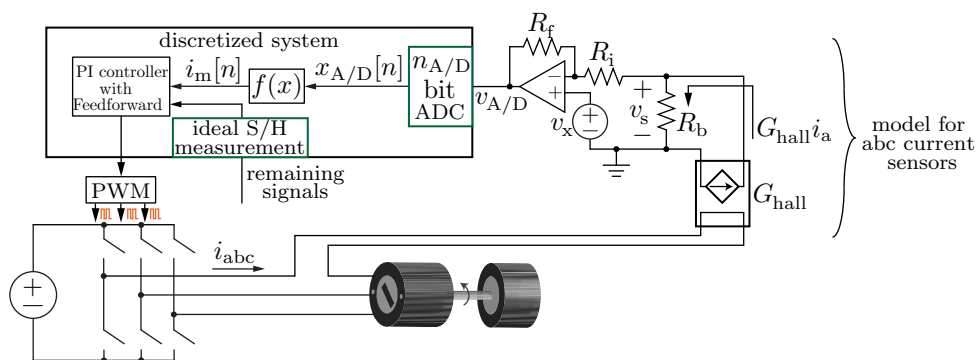

Figure 4: Motor drive with discretize controller along with sensing path scaling and circuitry.
We will model the LAH25-NP hall-effect sensor. This sensor outputs a current  $G_{\text{hall}}i(t)$  where  $G_{\text{hall}} = 1/1000 \text{ A/A}$  and  $i$  is the current flowing on one of the three phases (see Figure 4). The sensor current flows in a burden resistor  $R_{\text{b}} = 75 \Omega$ . The effective gain from the current  $i$  to op-amp input signal  $v_{\text{s}}$  is  $G_{\text{s}} = G_{\text{hall}}R_{\text{b}}$ . This sensor gives a zero dc offset at  $v_{\text{s}}$  (in handout  $v_{\text{dc}} = 0$ ). The ADC pin voltage is  $0 \leq v_{\text{A/D}} \leq V_{\text{FS}}$  where  $V_{\text{FS}} = 3 \text{ V}$ , the ADC has  $n_{\text{A/D}} = 12$  bits, and  $x_{\text{A/D}}$  is the integer produced by the ADC. Denote the maximum phase current as  $i_{\text{pk}}$  where  $i_{\text{pk}} = 40 \text{ A}$ . Only one sensing path is shown for clarity. All other measurements are ideal.
each time the carrier starts ramping up (we will do only valley sampling for this). Once this first step is done and the discretized system works with ideal sensing, begin modifying your model with the current sensor model in Figure 4. The objective of the sensing path design is to ensure:
- (b) **[10 Points]**: Given that the ADC has 12 bits, use your solution in part (a) to compute the factors  $m$  and  $b$  in the measurement recovery formula  $i(t) \approx i_m[n] = mx_{A/D}[n] + b$ . Add this to your simulation (see Figure 4) for each of the three current sensing paths.